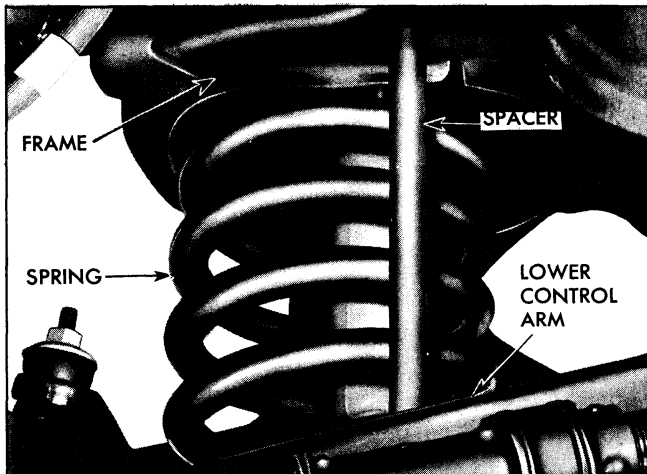
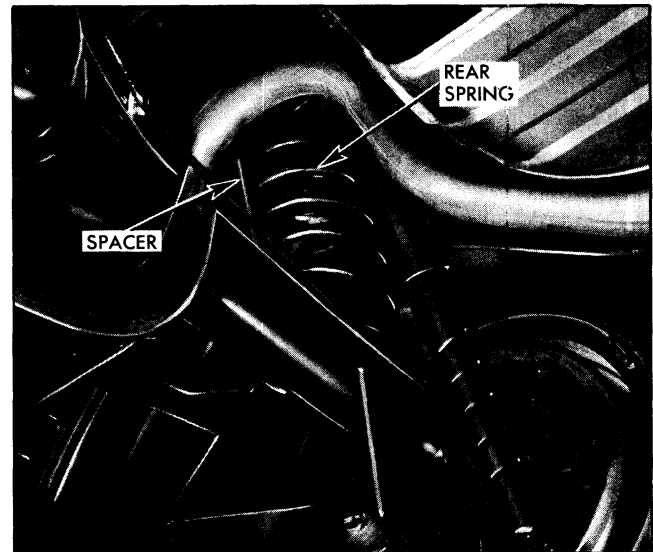

Fig. 3-10 Spacer Inserted to Set Front Suspension
Fig. 3-11 Spacer Inserted to Set Rear Suspension
The tendency to remain upward and downward will be more noticeable on new cars because the suspension parts have not yet become burnished and completely free. For this reason, alignment on new cars should not be done unless the curb height is set to correspond with heights as shown in Fig. 3-10, Front Suspension, and Fig. 3-11, Rear Suspension. Blocks, or spacers made of rod or tubing, will be useful in positioning parts.
1. At front, measure height from top of lower control arm to underside of frame at a point directly behind center line of spring (See SPECIFICATIONS and Fig. 3-10).
2. At rear, measure height from top of axle housing to top of spring seat at a point approximately $1\frac{1}{2}$ " outward from rubber bumper on frame. (See SPECIFICATIONS and Fig. 3-11).